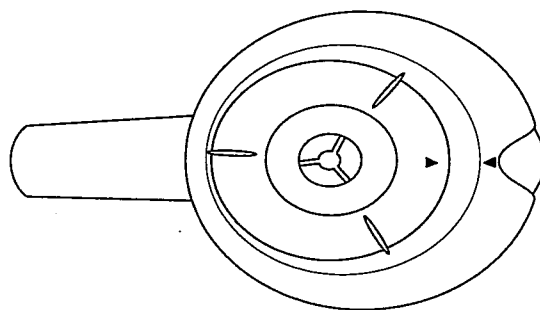

Figure 7
8. When you are ready to brew coffee, replace the empty Carafe on the Base Plate, making sure that the Lid is in the OPEN position; the arrow on the Lid will face the spout of the Carafe. (See Figure 7.)
To pour coffee from the Carafe, turn Carafe Lid until arrows are aligned and it is in the OPEN POSITION. (See Figure 7.)